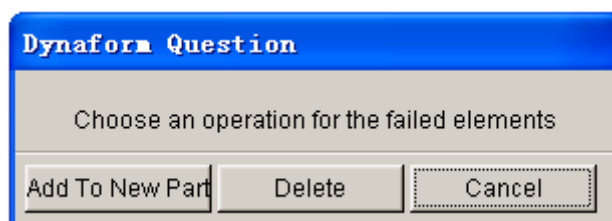

Figure 5.5.6 DYNAFORM Question dialog box
2. At same time, a eta/DYNAFORM QUESTION dialog box as illustrated in Figure 5.5.6 is displayed. If ADD TO NEW PART is selected, the CREATE PART dialog box is